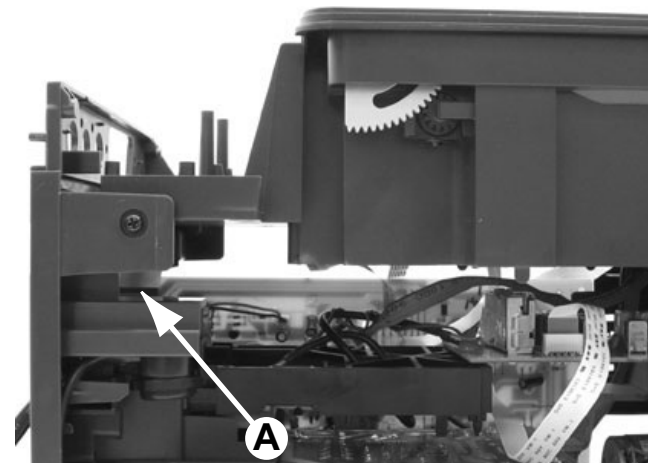

Figure 2
- 6) Loosen 2 screws A (see Figure 2) to remove the Bracket Module Mounting and CD Module.